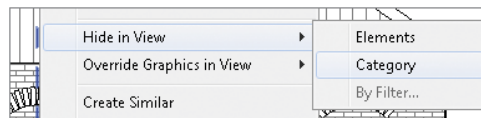

FIGURE 9.7 Hide the category in the view.
3. Select one of the green dashed reference planes, right-click, and choose Hide In View > Category (Figure 9.7). All of the reference planes are now hidden. Select one of the level datum graphics, right-click, and choose Hide In View > Category. Notice that all of the level markers are now hidden.